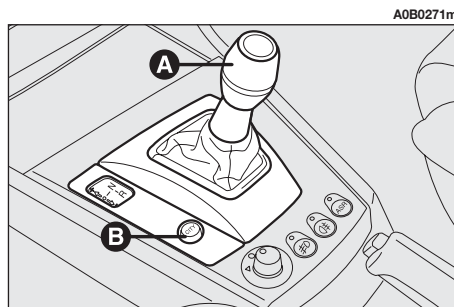
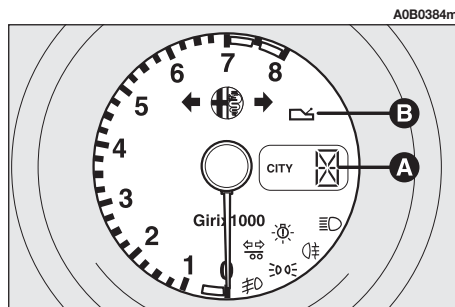

fig. 124
fig. 126
Gearshifting takes place through a floating control lever (**A**-fig. 124) with only one stable central position. Using this lever it is possible to request increase/decrease of the ratio of the gear engaged and/or engagement of reverse gear (**R**) or neutral (**N**).
- the second is automatic, called **CITY** (mode selectable with the specific button **B-fig. 124**, the **CITY** sign appears on the display **fig. 126** fitted on rev-counter), in which the system decides directly when to shift gear.
The gear engaged (**fig. 126**) is always signalled on the display regardless of the selected mode.
Failures of Selespeed gearbox are signalled to the driver through a warning light (**B-fig. 126**) accompanied by an acoustic signal.
Turning the ignition key to **MAR**, all the segments of the display (**A-fig. 126**), the gearbox failure warning light (**B-fig. 126**) and the word **CITY** light up. After about one second, the display indicates the gear engaged (**N, 1, 2, 3, 4, 5, R**); from this moment, the Selespeed system accepts gearshift commands.